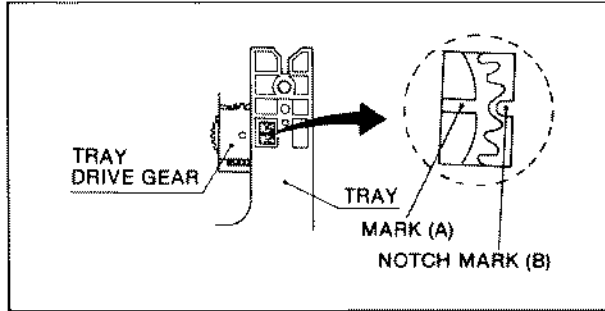

Fig. R3
6. Install the Tray so that the mark (A) of the Tray Drive Gear lines up with the notch mark (B) of Tray as shown in Fig. R3.